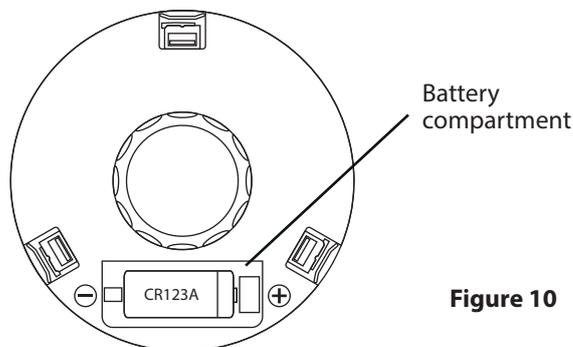

Figure 10
1. Open battery compartment (see figure 10)